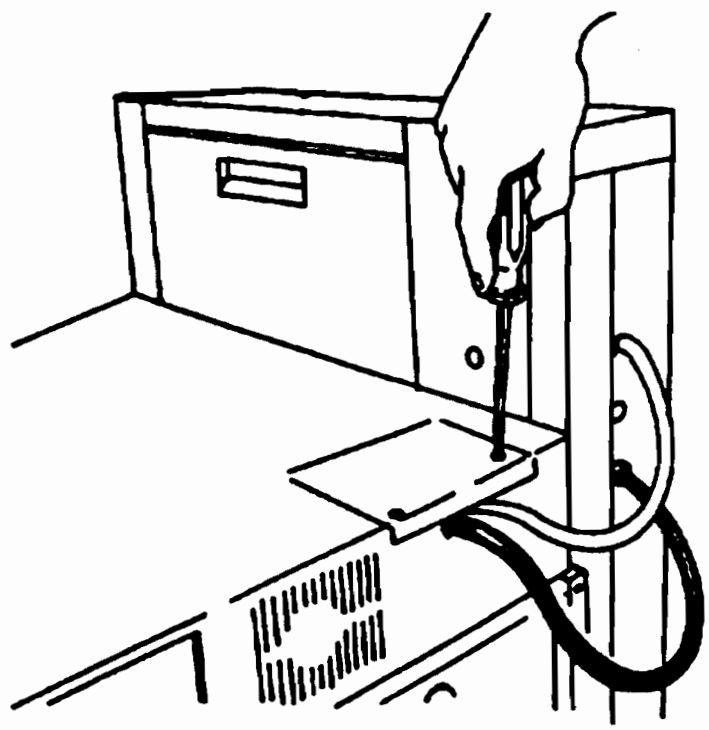

Figure 1-10
8. Install power & data cables access plate using the same screws removed during the top cover removal process. Access plate location shown in figure 1-10.